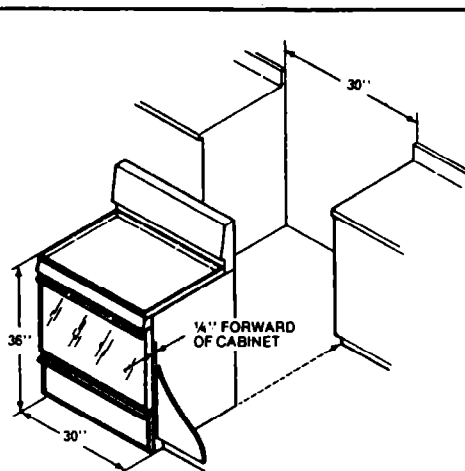

Fig. 2
- The range may be placed with 0" clearance (flush) against the back and side walls of the range if the front edges of the range side panels stick out ¼" beyond cabinet fronts next to range. See Figures 2 and 3.
Pull the thermostat knob straight off. Use a $\frac{1}{8}$ " Flat blade screwdriver to turn the oven pilot adjustment screw (beside the thermostat stem) clockwise 180° to a full stop, Fig. 2. Do not turn the screw in the thermostat stem.